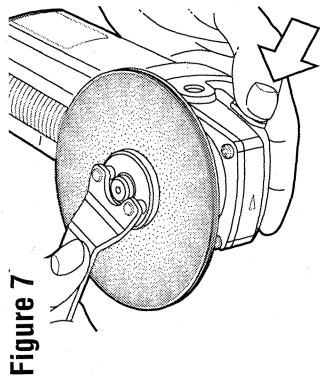

Figure 7
5. Screw the outer flange with the two grip holes, together with the pad fitted, onto the machine spindle (Fig. 7).